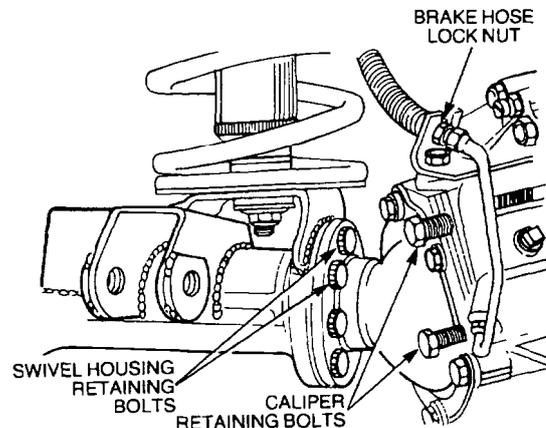

Figure 76 Brake Calliper Removal
- n. Slacken the nut securing the brake hose to the retaining bracket (Figure 76).
- g. Slacken the nut securing the brake hose to the retaining bracket (Figure 76).